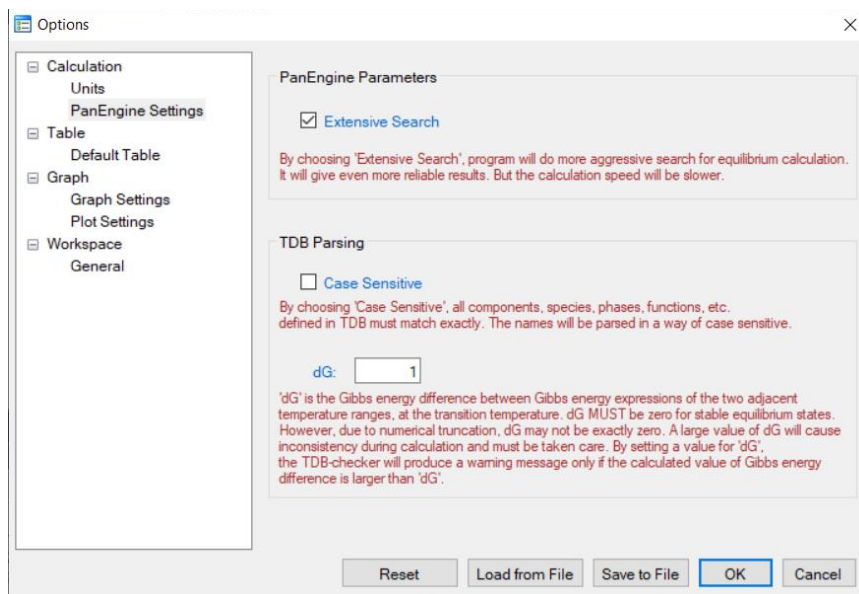

Figure 1.25.2: Set “Extensive Search” option.
- As this is a complicated phase diagram calculation, option "extensive search" is recommended. Click options in the interface shown in Figure 1.25.1, an interface as shown in Figure 1.25.2 will pop-up. Select "Extensive Search" in the "PanEngine Settings". Then click OK. (Detailed description on "Extensive Search" can be found in Pandat User's Guide 3.2.2). Note that "extensive search" may not be necessary for most calculations, yet, it provides users with an option for the calculation of complicated diagrams.